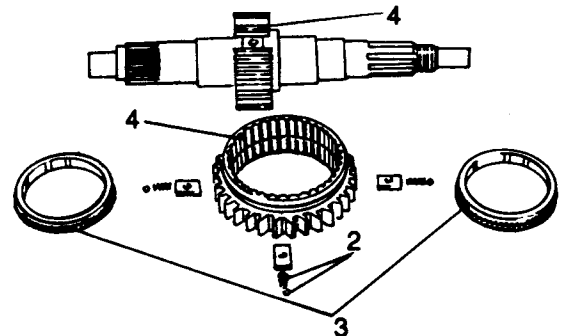

Fig H1.146
- (1) Refer to Fig H1.146. Strip the unit in the same manner as that used for the 3rd and 4th speed unit.